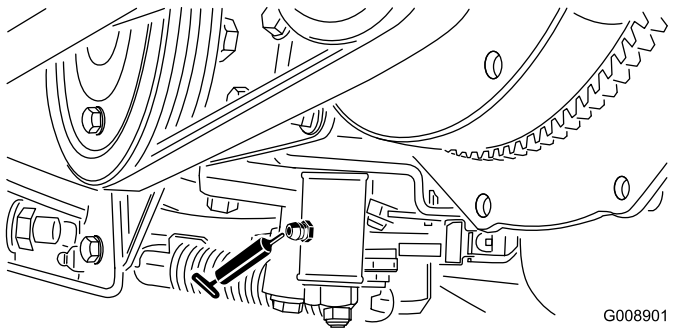

Figure 66
2. Jack the back of the machine under the rear wheel motor. (Figure 66).
- Neutral adjust mechanism (Figure 66)